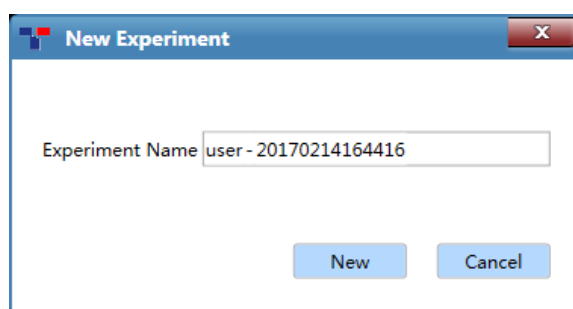

Figure D-2.1b. Quick Start Bar - New Experiment
- Click **< New Experiment >** and the application software will automatically pop up the new experiment dialog box, as shown in figure D-2.1b. User can manually enter a name in the **Experiment Name** input box and choose the experiment save path from **Save Path** drop down list, finally click **< New >** to create a new experiment file.